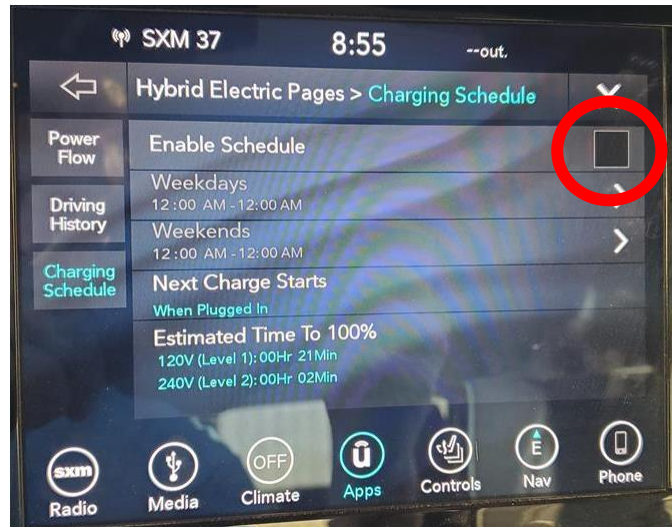

Figure 3 – Enable Schedule Screen
24. Verify the “Check Mark” is **NOT** selected in the “Enable Schedule” box (Figure 3).